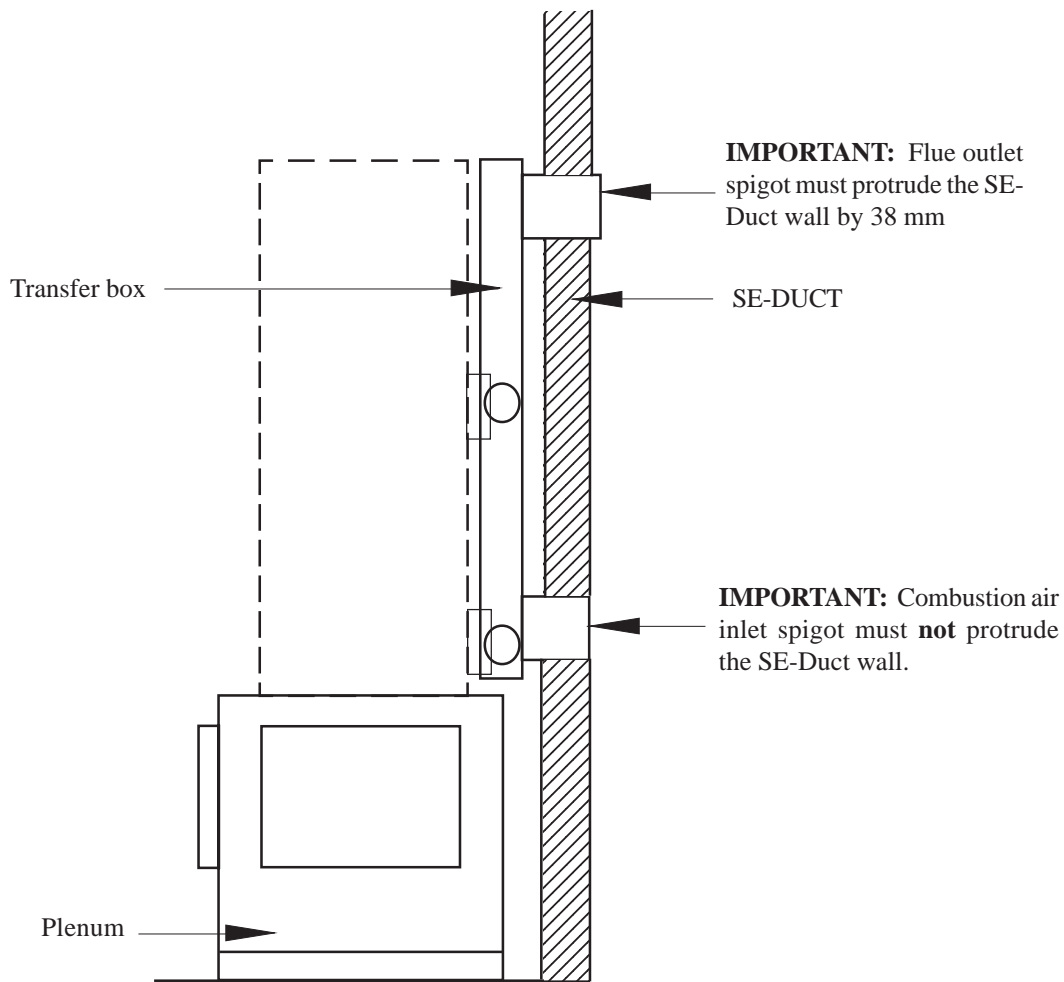

Fig. 3
4.5.1 Referring to Fig. 3, measure the thickness of the SE-Duct wall, mark and cut the transfer box spigots as follows: